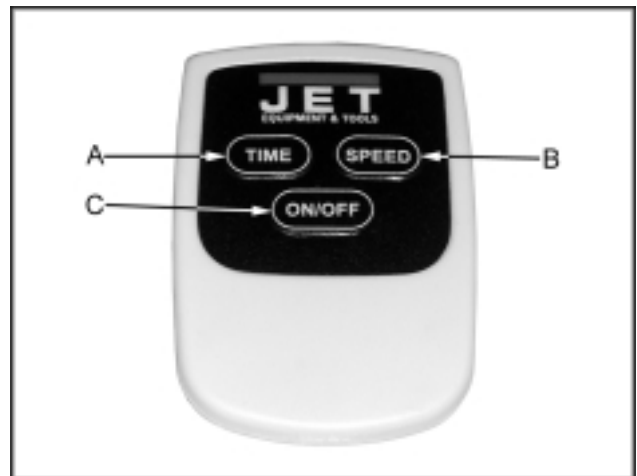

Fig. 3
**Time** button (A, Fig. 3) controls the three different settings.
**Speed** button (B, Fig. 3) controls the three different settings, Low, Medium and High. There is also a manual button (A, Fig. 4) on the backside of this unit which controls the speed.
**On/Off** button (C, Fig. 3) turns the unit on and off. There is also a manual on/off button (B, Fig. 4) on the backside of the unit. Pressing this button will turn the machine on Low.